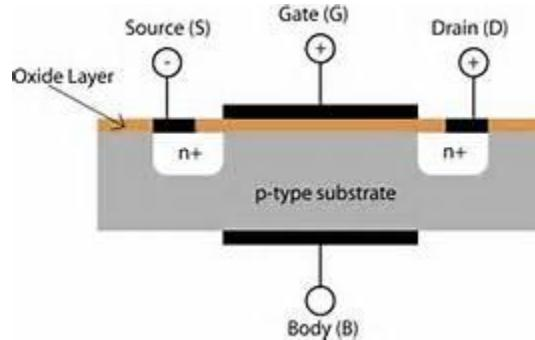

Figure 22. MOSFET Diagram
A MOSFET is a three terminal device with the three terminals being the **Gate (G)**, the **Source (S)**, and the **Drain (D)**. There is a fourth terminal, the **Body (B)**, but this is almost always shorted and connected with the Drain inside of the MOSFET (Figure 22).